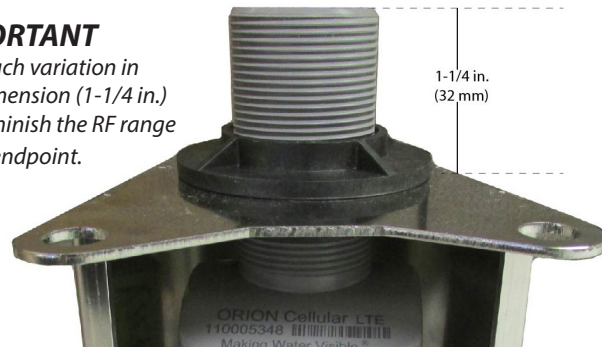

Figure 5: Endpoint 1-1/4 inch above
5. Thread the second lock nut onto the endpoint, large diameter side *down*, until the lock nut is in contact with the outside surface of the top plate. See Figure 5.
6. Adjust the lock nuts so the endpoint is exposed 1-1/4 inch above the top plate (Figure 5).